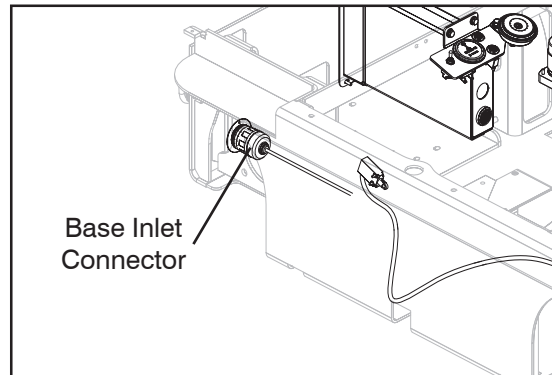

Figure 5-23. Base Inlet Connector Removal
- Remove the base inlet connector from the base. See Figure 5-23.